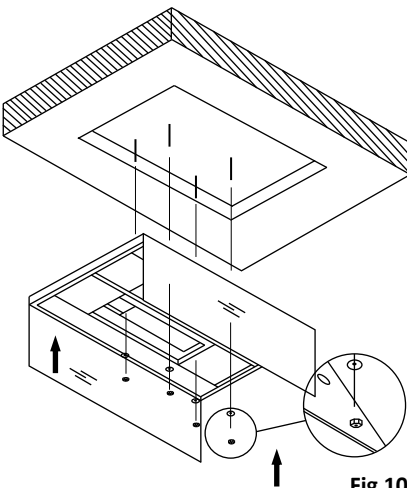

Fig 10
7. Align the fixings to the holes on the hood and tighten bolts to fix the hood to the ceiling (Fig 10).